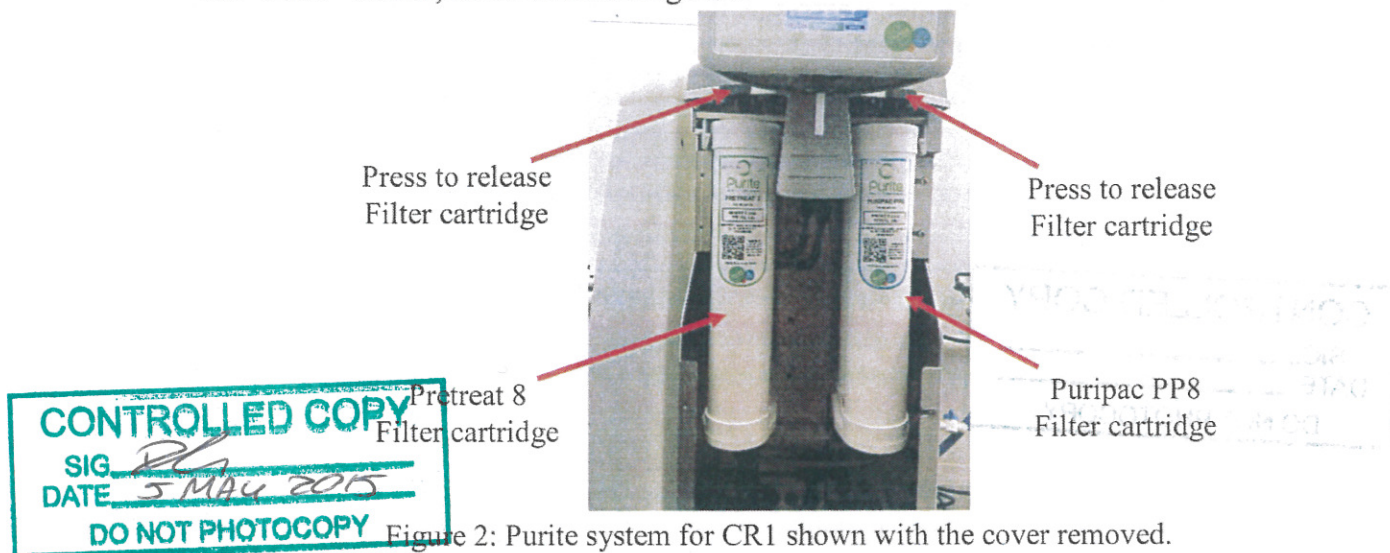

Figure 2: Purite system for CR1 shown with the cover removed.
6.2.3. **Remove Cover.** Remove the cover from the filter system, as shown in Figure 2:
6.2.4. **Remove Old Filter Cartridge.** Press down the dark coloured button above the filter requiring changing, as indicated in Figure 2: Slide the filter out of the filter system.
- 6.2.5. **Replace Filter Cartridge.** Ensuring that the replacement filter cartridge is of the same type as one previously removed and using Figure 2: for guidance, remove the plugs from the water connections on the filter cartridge as shown in Figure 3: then slide the replacement filter cartridge into the filter system until it “clicks” into place.
- 6.2.7. **Replace Second Filter Cartridge.** Repeat steps 6.2.4 and 6.2.6 for the second filter again ensuring that the filter cartridge is replace for one of the same type as identified in Figure 2: